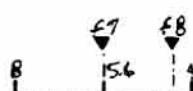

fig. 27-15
C < D (fig. 27-15, ⑥ clockwise)